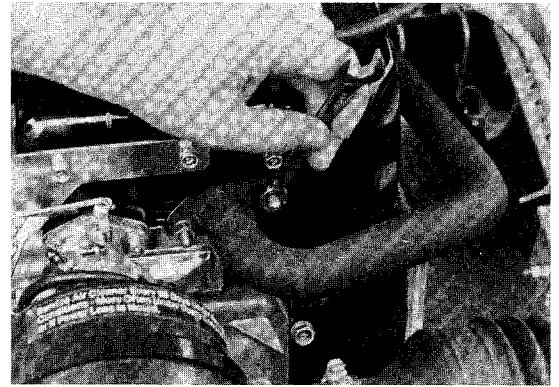

Figure 6-7
9. Remove two nuts from exhaust header/manifold connection (**Figure 6-7**).